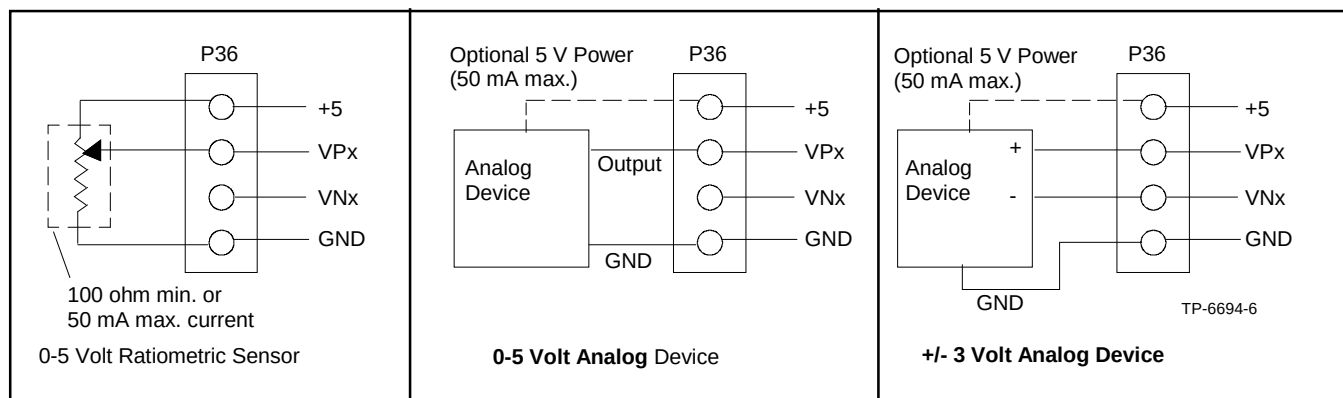

Figure 66 Dry Contact Kit Analog Input Connections P36
5. See Figure 66 for connections of analog inputs.
6. Select the normally open (NO) contacts of the relay, Form A dry contact, depending upon the application. Use a two-wire harness for the NO connections.